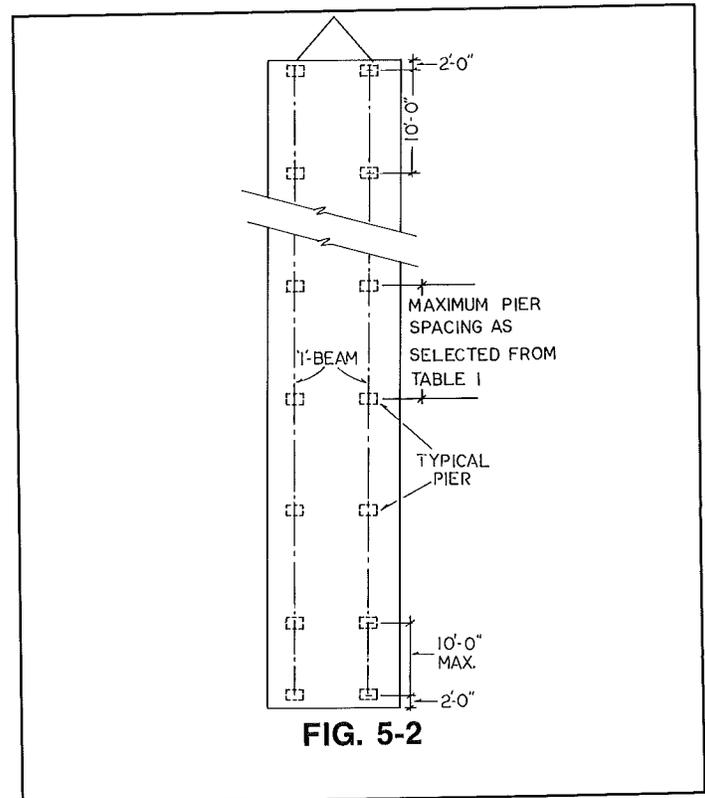

FIG. 5-2
5. Place the remaining pier supports under the main "I" beam on each side taking care to maintain a maximum distance of no more than the spacing determined from Tables 1 or 2 with piers located with 2'0" of each end of each "I" beam. (See Figs. 5-2)